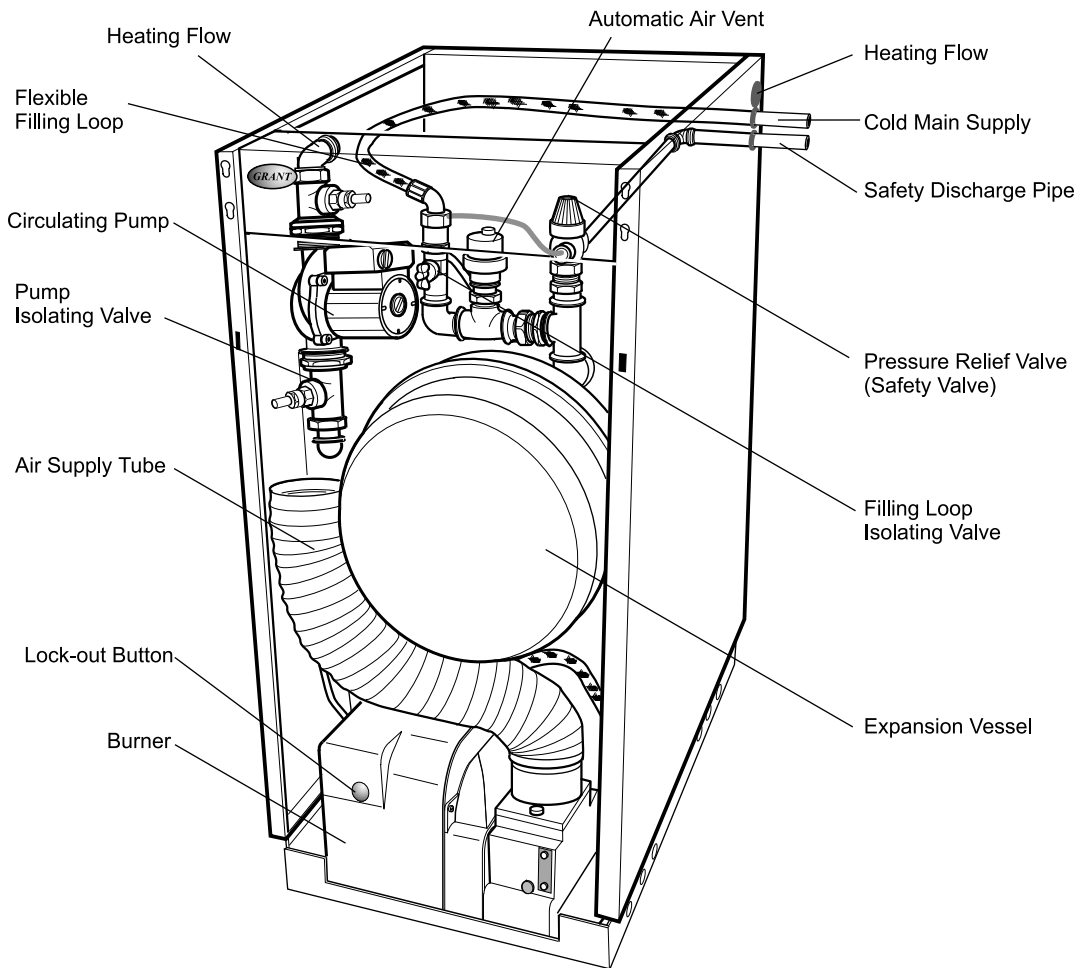

Fig. 20- System boiler components
- 1 An automatic air vent is fitted to the top of the boiler (see Fig. 20). Check that the small cap on the top of the air vent is screwed on fully, then unscrew it one complete turn - the cap remains in this position from now on.
- 8 Check the operation of the safety valve (see Fig. 20) by turning the head anticlockwise until it clicks. The click is the safety valve lifting off its seat allowing water to escape from the system. Check that this is actually happening, and water flows unobstructed from the relief discharge pipe.